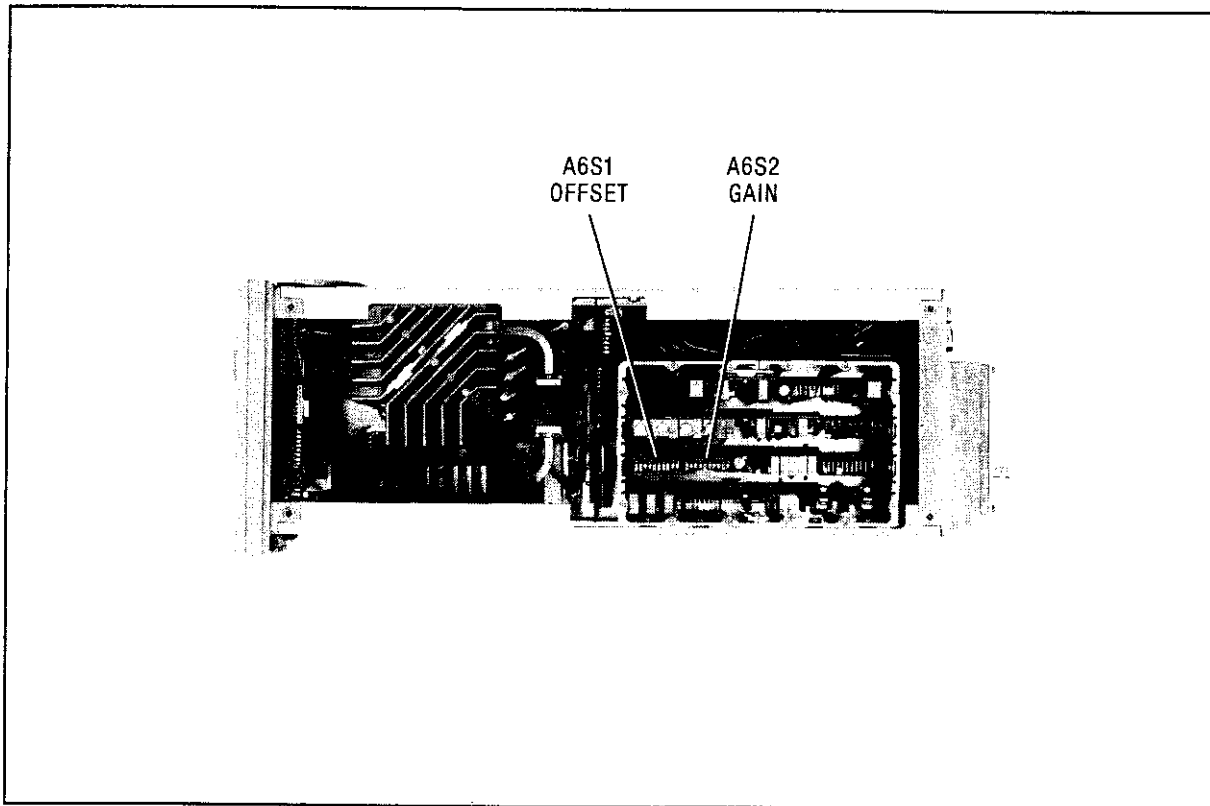
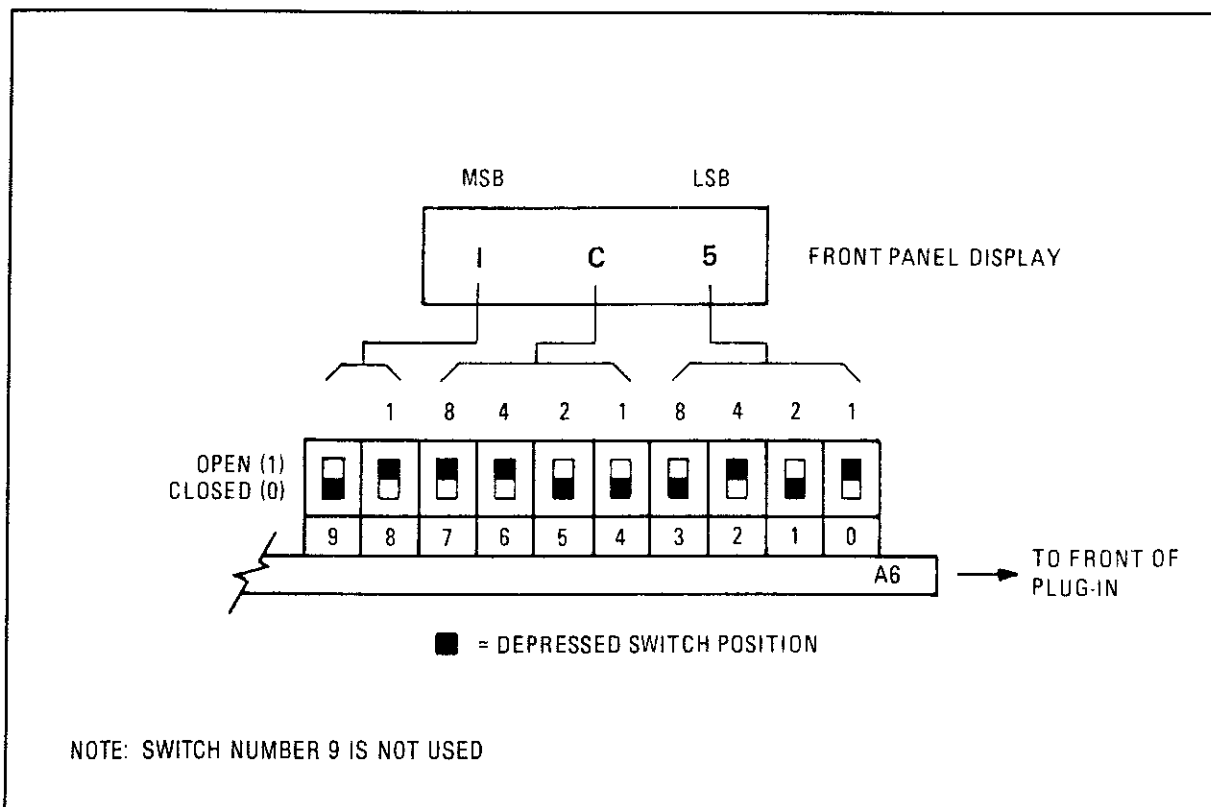

Figure 5-6. A6S1 and A6S2 Switch Locations
Figure 5-7. A6S1 and A6S2 Switch Configurations
7. Set switch A6S1 (Figure 5-6) for the value displayed in the POWER window. Note the hex number for subsequent verification. Refer to the diagram in Figure 5-7.
13. Set A6S2 (Figure 5-6) for the reading displayed in the POWER window. Note the hex number for subsequent verification.